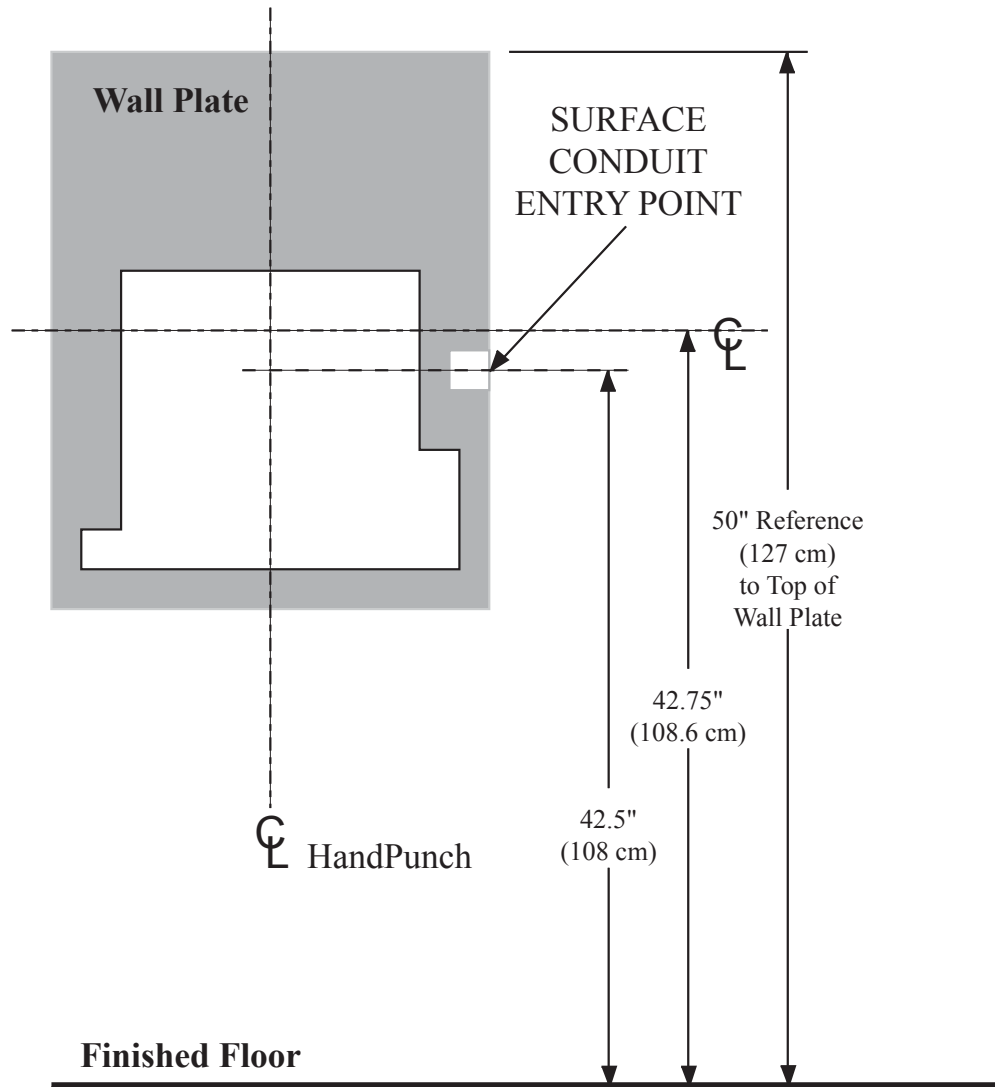

Figure 3-2: HandPunch Wire Routing Layout
Before you begin installation, check the site blueprints, riser diagrams, and specifications for important information about HandPunch location and for other systems that connect to the HandPunch. Look for any existing wall preparations and wiring that other contractors may have installed for the HandPunch. A wire routing layout diagram (see Figure 3-2 on page 17) is provided to assist in planning wire routing.
To make the modem connection, a telephone jack must be installed on or in the wall behind the modem HandPunch terminal. Position the RJ-11 jack location using the template provided in this manual (see Figure 3-2 on page 17). The short black cable provided with the modem HandPunch connects the terminal to the telephone jack. Figure 4-5 on page 21 a wiring diagram for a modem to host computer connection.
1. Refer to Figure 3-2 on page 17 for a template diagram to assist in routing wiring.